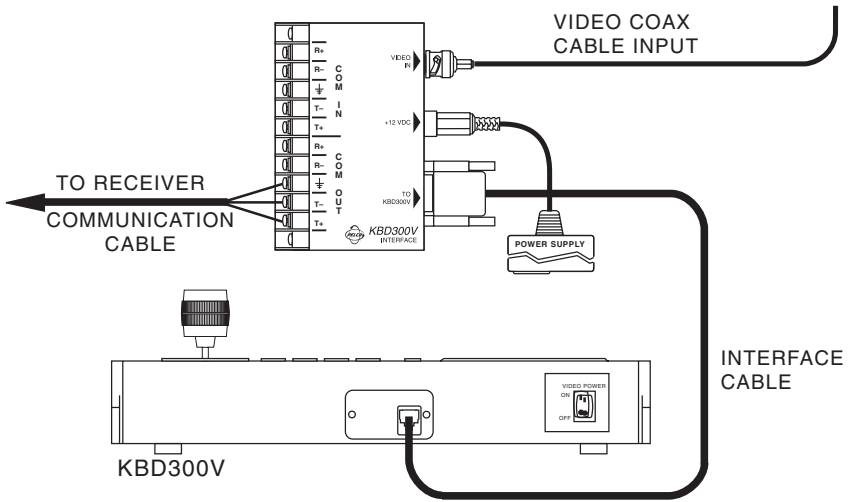

Figure 3. Keyboard Cabling Diagram
To connect the keyboard (refer to Figure 3).
- ❺ Refer to Figure 3. Make receiver cable connections to the COM OUT terminals on the interface module.
- ❻ Connect a video coaxial cable from the video out jack on a video switcher to the VIDEO IN jack on the interface module.
- ❼ Set the keyboard DIP switches for Direct Mode according to the instructions on page 8.
- ❽ Connect the keyboard data cable between the interface and the keyboard.
- ❾ Connect the power supply to the interface and plug the transformer end into a suitable outlet. The LED display shows number 1, which is the default camera number.
- ❿ Turn on the power switch on the back of the keyboard. The monitor comes on.